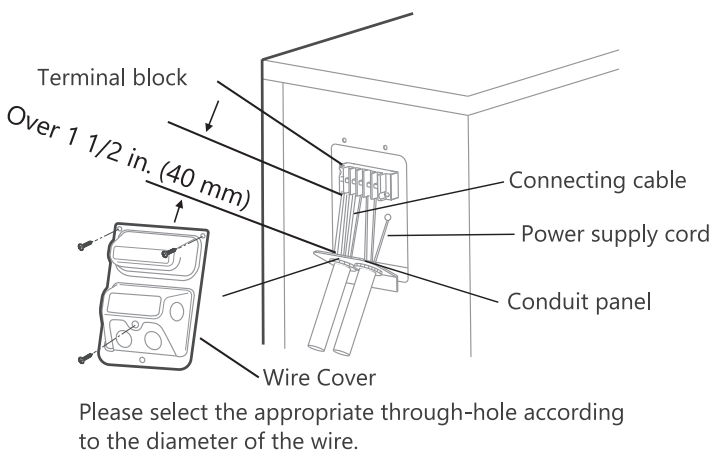

Fig. 4-3: Field Wiring Conduit Location
5. Connect the conduit-to-conduit panel (see Fig. 4-3).